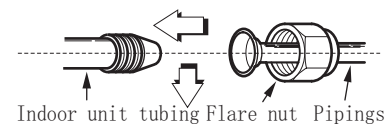

Fig.51
- Sufficiently tighten the flare nut with fingers, and then tighten it with a spanner and torque wrench as shown in Fig.51 & 52.
1. Remove the electrical control board cover from the outdoor unit by loosening the screw as shown in Fig.51.